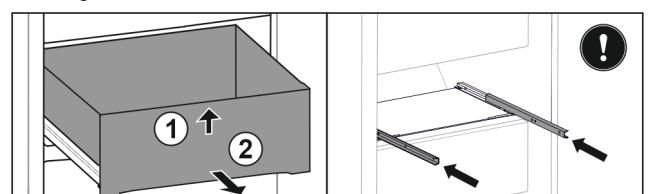

Fig. 98
- ▶ Lift up drawer at the front. *Fig. 98 (1)*
- ▶ Remove drawer to the front. *Fig. 98 (2)*